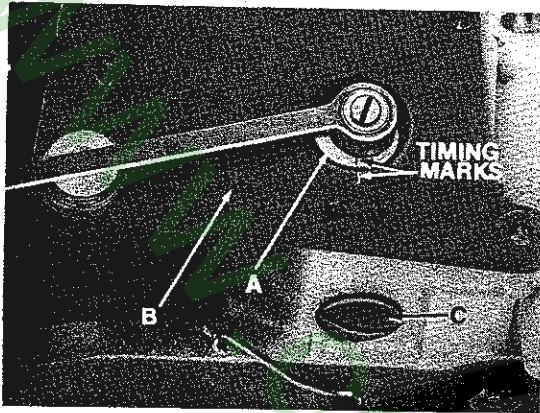

Fig. 8
With the needle bar at the bottom of its stroke, the timing mark on the face of the vertical drive crank (A, Fig. 8) must line up with the timing mark on the oil reservoir top cover (B). This can be accomplished by removing the access plug screw (C), inserting screwdriver and loosening screws in driven gear on the vertical shaft, rotate vertical drive crank by hand to align the timing marks and retighten screws in driven gear. The driven gear is also used to take up end play in the vertical drive crank, so be sure this is done when tightening screws.